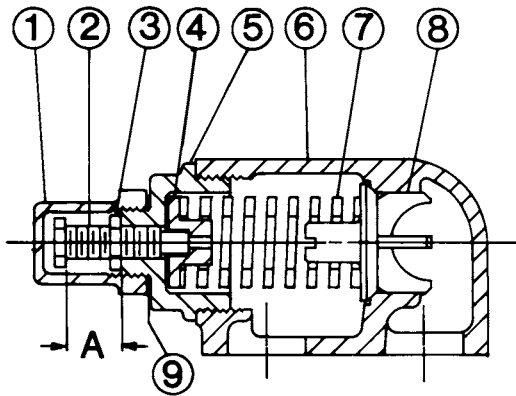

FIGURE 15
2. Measure and record the length of extension of the adjusting screw. Refer to "A" on **Figures 15 and 16**.